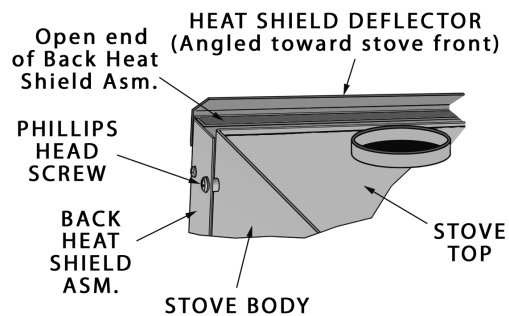

Fig. 2 – TOP VIEW
8. Attach the back heat shield assembly (#2) to the rear of the stove. The closed end is positioned to the bottom of the stove with the open end up, fig. 2. Secure the back heat shield with four Phillips head machine screws using the threaded holes located in the rear side corners of the stove.